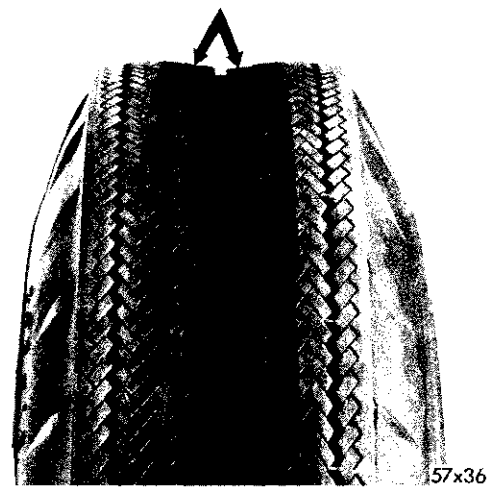

Fig. 14—Over-Inflation
g. Check for over-inflation (Fig. 14).